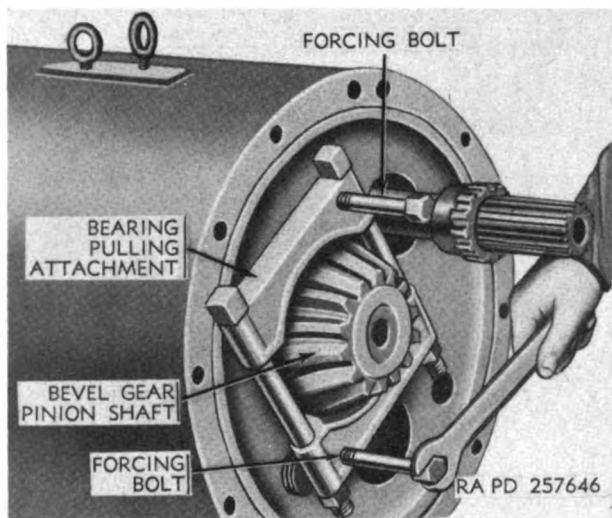

Figure 176. Pulling bevel gear pinion shaft.
(3) *Pulling bevel gear pinion shaft.* Figure 176 illustrates the use of the bearing pulling attachment and a pair of forcing bolts used to remove a bevel gear pinion shaft from a transmission gear case. The forcing bolts bear against the case and force the pinion shaft out. Tighten bolts alternately to obtain a uniform even pull to prevent cocking.